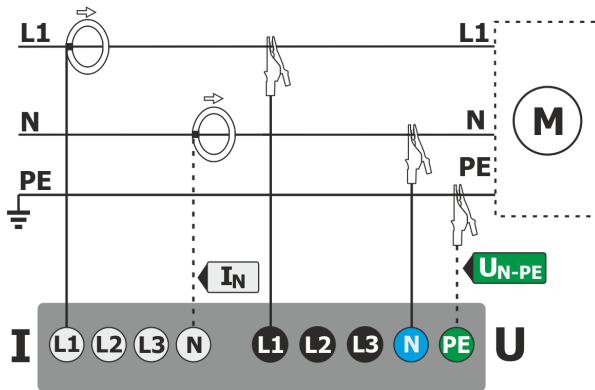

Fig. 58. Wiring diagram – single phase.
- single-phase (Fig. 58)
**Step 2: Connect to the tested network.** Connect the analyzer to the tested mains, as shown in Fig. 58. Connect voltage inputs L1, N. Probes do not need to be connected, because the current measurement is not required. Connect an external power supply to the analyzer to avoid supplying from the battery pack that may be interrupted due to the discharged battery.